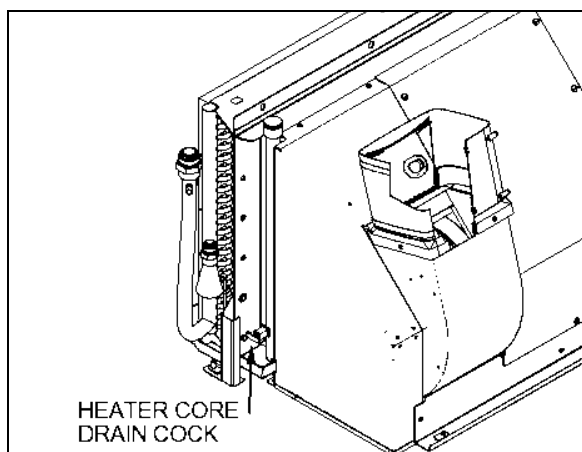

FIGURE 55: HEATER CORE DRAIN COCK LOCATION
4. Open drain cock in bottom of heater core (Figure 55) you can unfasten a hose connection on top of heater core in order to allow air to enter while draining. The main heater core drain cock is located in the evaporator compartment. To access the valve, open baggage compartment door located in front of the evaporator compartment (L.H. side). Open the evaporator compartment access panel.
Whenever the heating system has been drained and refilled, or the system has run low on coolant and coolant has been added, it is necessary to bleed air from the heating system. Locate the purge valve illustrated in Figure 51 & Figure 55, and open them momentarily until no air escapes from the lines. If present, open the manual vent located inside the HVAC unit, on the driver's side.